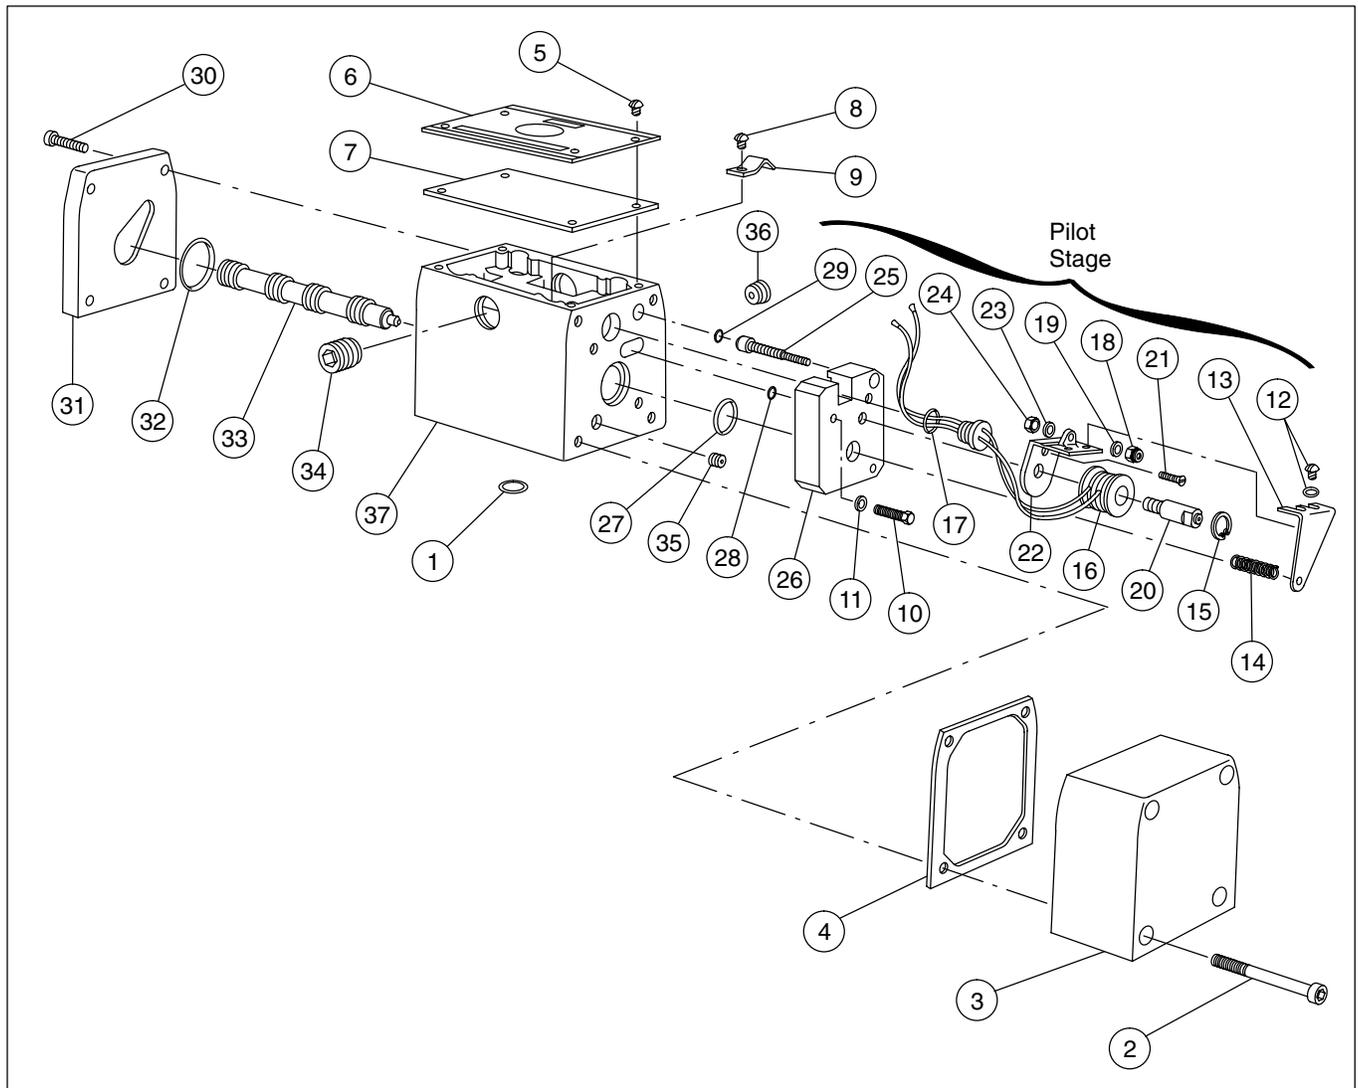
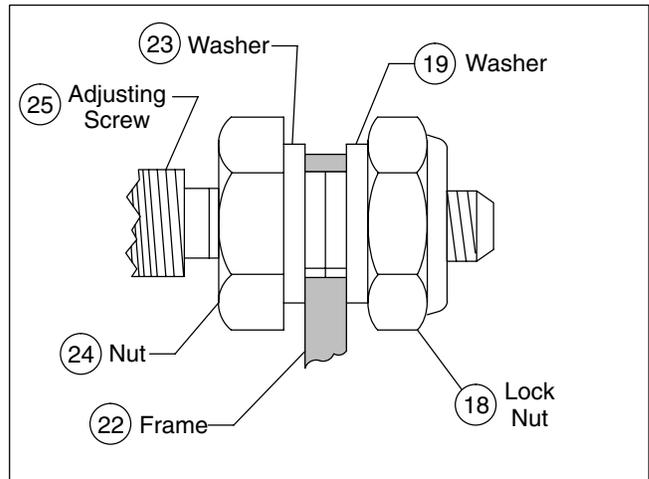
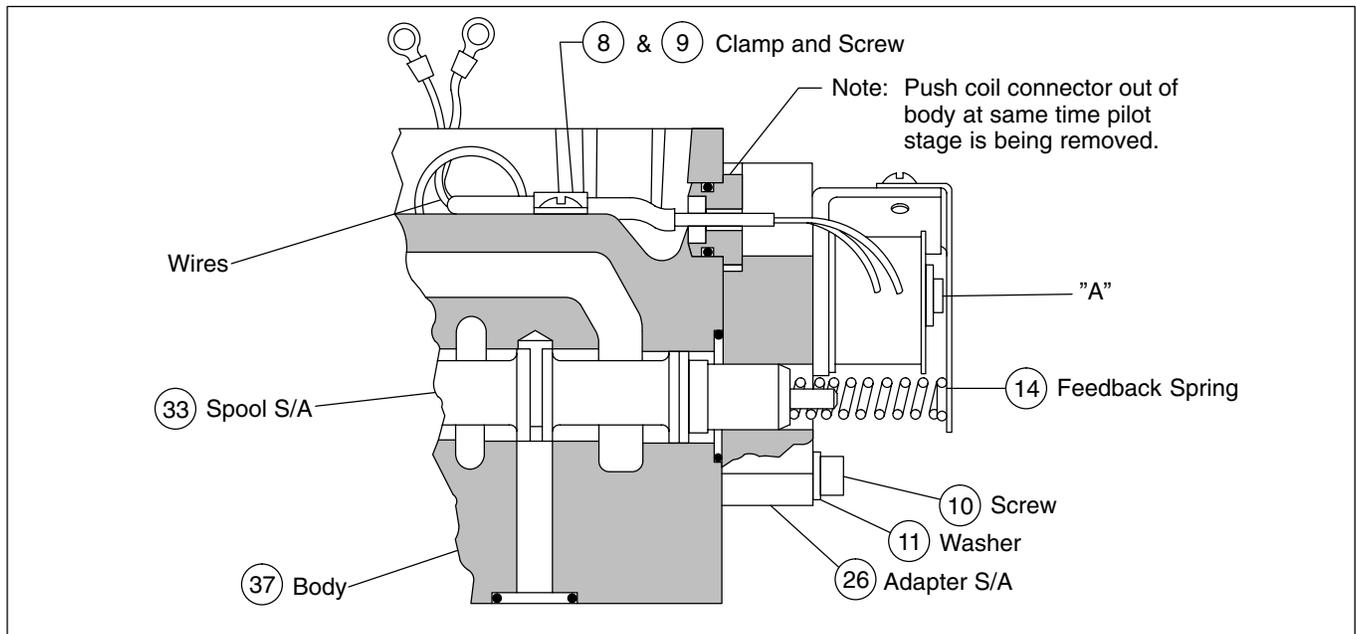

Figure 1. Exploded View of Servo Valve
Figure 2. Locating of Adjustment Screw Nuts and Washers
Figure 4. Sectional View
Legend for Figures 1 thru 4
Periodic maintenance of the valve will generally not require disassembly to the extent described here. However, the sequence can also be used as a guide for partial disassembly. In general, disassembly is accomplished in the item number sequence shown on Figure 1. Special procedures are included in the following steps:
2. The valve is full of fluid, so hold it over a container when the cover (3, Figure 1) is removed.
3. Remove parts (1) thru (11) according to sequence.
4. Remove the pilot stage parts (12) thru (26) as a unit by pulling the adapter (26) from the main stage body (37); at the same time, push the coil connector from the body. See Figure 4. Disassemble the pilot stage according to numerical sequence in Figure 1.
5. Remove parts (27) thru (37).
1. Assemble parts (37) thru (35). See Figure 1.
- a. Assemble parts (26), (22), (21) and (20).
- b. Install adjusting screw (25) thru the adapter (26), attach standard nut (24) and washer (23) and turn the nut on until it bottoms against the shoulder of the adjusting screw. See Figures 2 and 3.
- c. Turn the adjusting screw (25) thru the hole on the frame (22) far enough to attach the other washer (19) and lock nut (18).
- d. Turn one of the nuts until it contacts the frame, then tighten the other nut. See Figure 2.
- e. Assemble parts (17) thru (15). See Figure 1.
3. Install O-Ring parts (29) thru (27) into valve body (37).
4. Insert spool subassembly (33) into body (37). The small end of the spool must extend from the valve approximately one inch. Assemble the pilot stage (adapter subassembly (26)) over the spool for alignment purposes. Guide coil wires thru body hole and align the coil connector with body hole while installing. See Figure 4. Tighten the adapter holding screws (10) and washers (11) alternately until the pilot stage is flush against the valve.
5. Check spool to see that it doesn't bind in the adapter (26) then torque the screws to 16-18 lb. in. Recheck for binding.
6. Assemble the feedback spring (14) to the flapper armature by twisting the spring over the extrusion until the spring is tight against the flapper armature. Use a twisting motion only, lateral force against the flapper armature may bend it. See Figure 4.
7. Assemble parts (34) and (32) thru (30).
8. Turn adjusting screw (25) until light can just be seen between the flapper and orifice, point "A", Figure 4. This is a preliminary null adjustment.
9. Assemble clamp (9) and screw (8) over the wire. Route the wire ends thru the hole to the outside of the valve. See Figure 4.